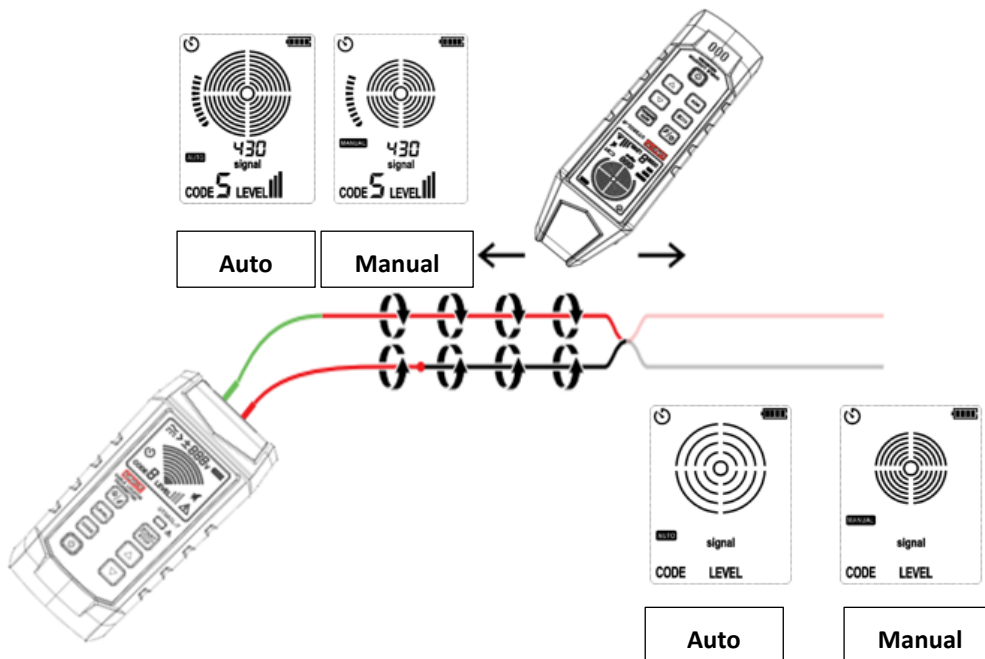

Figure 8.3.1a Identify shorts by tracking cable
1. Connect the test lead of the transmitter to the circuit, as shown in Figure 8.3.1a.